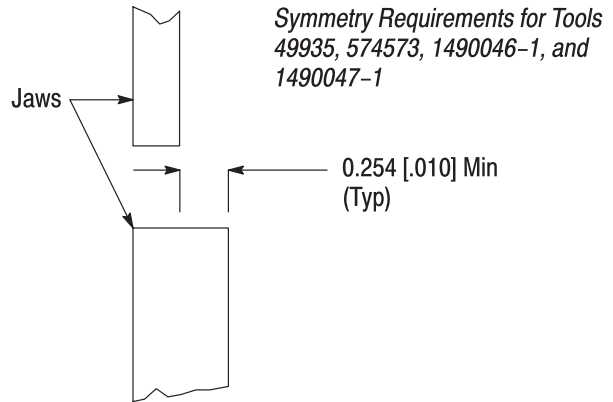

Figure 7
*The jaws in Tools 49935 and 574573 are not symmetrically located; make sure that the tool conforms to the symmetry requirements shown in Figure 7.*